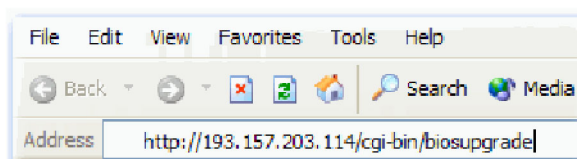

Figure 11: Entering the BIOS upgrade command (RUI v2.6.1 and below)
9. In the address bar of the Web browser, enter the following command and then press the **Enter** key. (See Figure 11.)